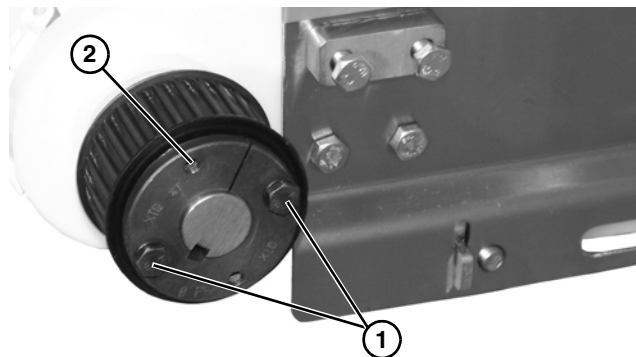

Figure 18
2. Remove taper-lock screws (**Figure 18, item 1**). Insert one of taper lock screws in remaining hole (**Figure 18, item 2**). Tighten screw until pulley is loose. Remove pulley and taper hub assembly.